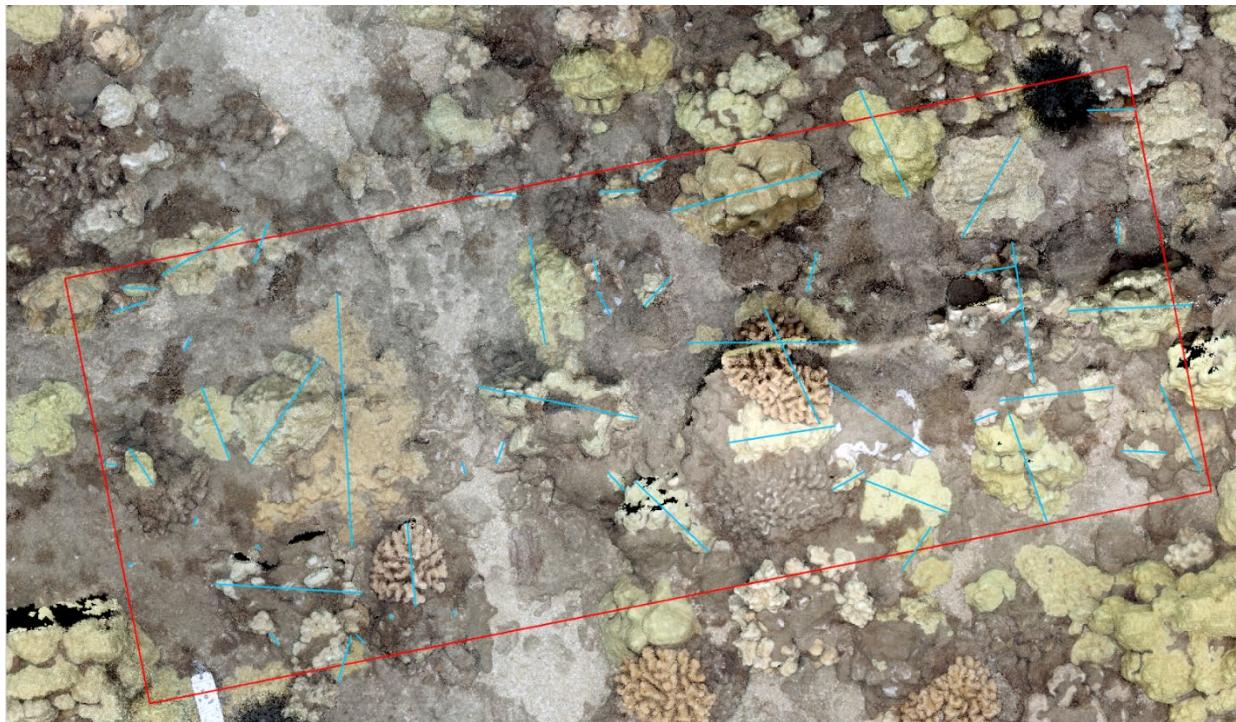

Figure 6.8 Screenshot in ArcGIS Pro of maximum diameter lines drawn on all the colonies in the segment.
5. Continue this until all colonies within the desired segments are identified (Figure 6.8).